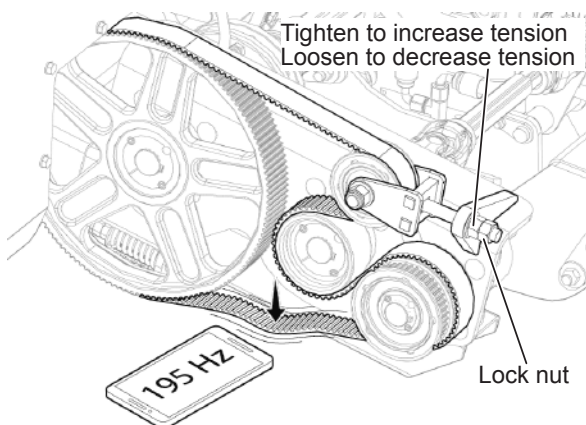

Fig. 140 - Feed Auger Drive Belt Tension Adjustment
5. Take note of the belt orientation and how it is fed through the pulleys. Remove the old belt and install the new belt. See Fig. 140 on page 97 for belt orientation.